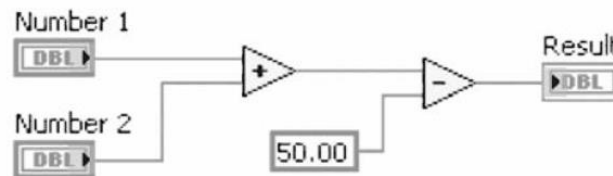

Figure 2.14 Data flow program.
- For a data flow programming, consider a block diagram shown in Figure 2.14 that adds two numbers and then subtracts 50.00 from the result of the addition.